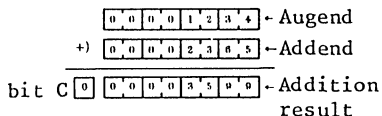

Fig. 3 Addition example when upper byte is not used
**(2) User Notes**
- (a) As shown in Fig. 3, when not using upper byte, the upper byte should be held to "0", otherwise addition result will not be correct, because addition is performed with undefined data in the upper byte.